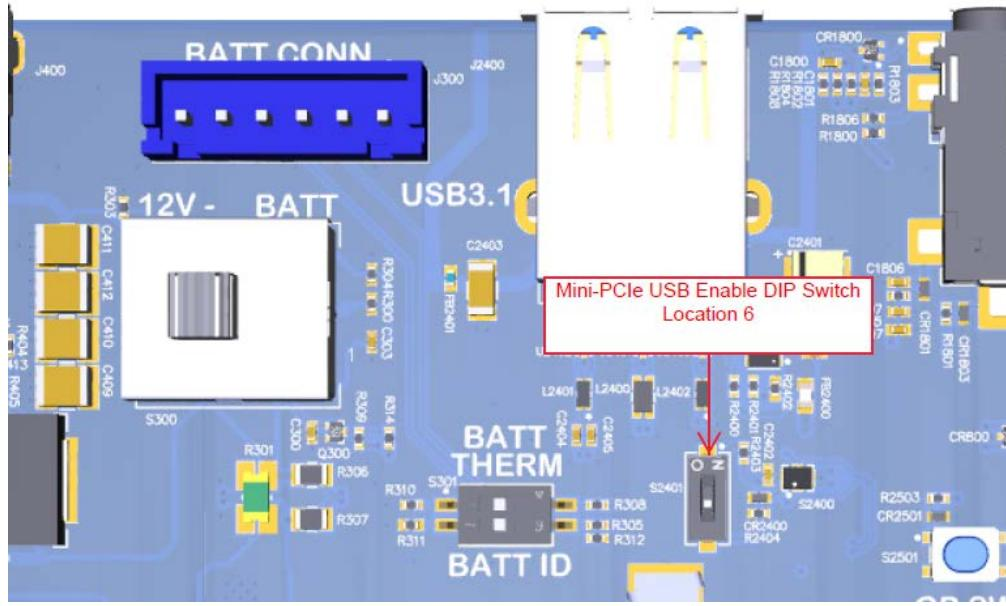

Figure 6. Mini-PCIe USB Enable DIP Switch (6)
If the user intends to use a mini-PCIe card on the dev kit that requires a USB connection, then the Mini-PCIe USB enable DIP switch S2401 (6) must be switched to closed / ON. See Figure 6. Mini-PCIe USB Enable DIP Switch (6). If the DIP switch is closed, the USB 3.1 Type A connector J2400 (5) is not functional.
3.7.16 Digital IO Expansion Header J2200 (23)